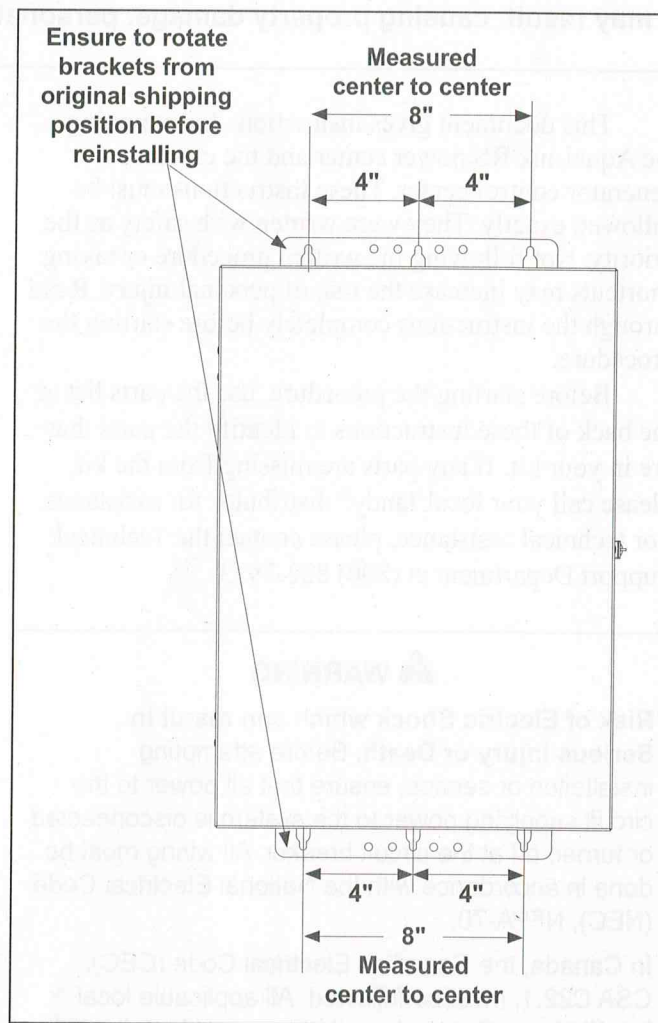

Figure 3. Mounting Hole Dimensions
4. Reinstall the mounting brackets to the top and bottom of the back of the enclosure using the four (4) screws that were removed in *Step 2*. Ensure that the brackets are rotated from the original shipping position.
5. Hang the enclosure to the surface using the three (3) screws in *Step 3*. With the enclosure in place, mark three (3) holes for the bottom mounting bracket.
NOTE As with the top brackets, the bottom bracket requires three (3) mounting holes. The three (3) mounting holes are four (4) inches apart center to center. See Figure 3.